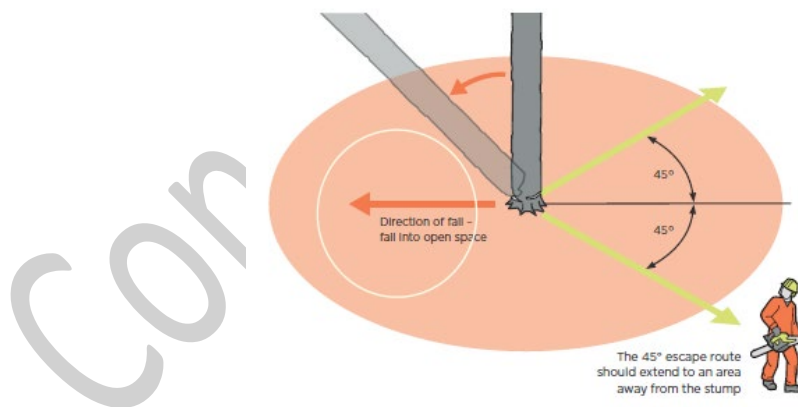

Figure 22: Escape route positioning⁴
- Always think about the escape route before starting any felling cuts. Where possible, make sure the escape route is at a 45-degree angle opposite the felling direction (Figure 22).
- are positioned up the escape route in full view of the faller (Figure 22)
- there is an escape route cleared at a 45-degree angle opposite the felling direction where possible (Figure 22)